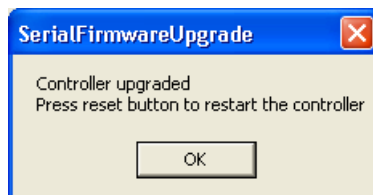

Figure 44. The Serial Firmware Upgrade window.
6. Select Firmware version¹ from the drop-down menu and click **Upgrade**. File transmission starts to the controller. This operation may takes a few minutes. A confirmation window opens when the controller is upgraded, see Figure 44.